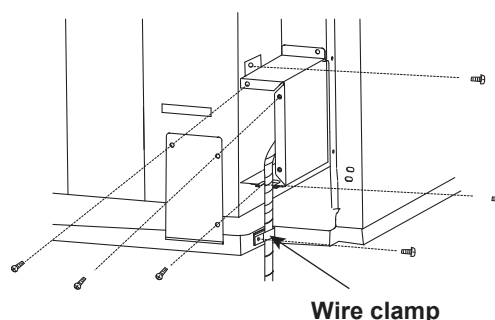

Fig. 15 – Wire Clamp
- Use wire clamp to attach power cord to basepan. Secure with screws (included) See Fig. 15.